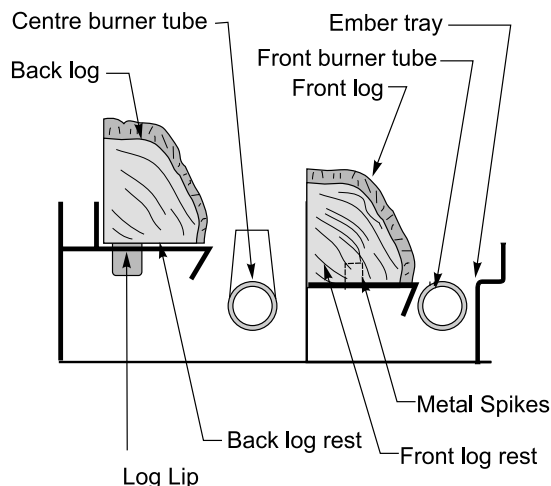

Figure 8a. Positioning for the front and back logs.
2. Place the Back log onto the back log rest as shown below in figure 8a. The log has lip on the bottom which fits into the slot on the log rest.
3. Place the Front log onto the front log rest as shown in figure 8a. Centre the log from side to side, and push it against the back of the log rest. Carefully push the log onto the metal spikes on the log rest.